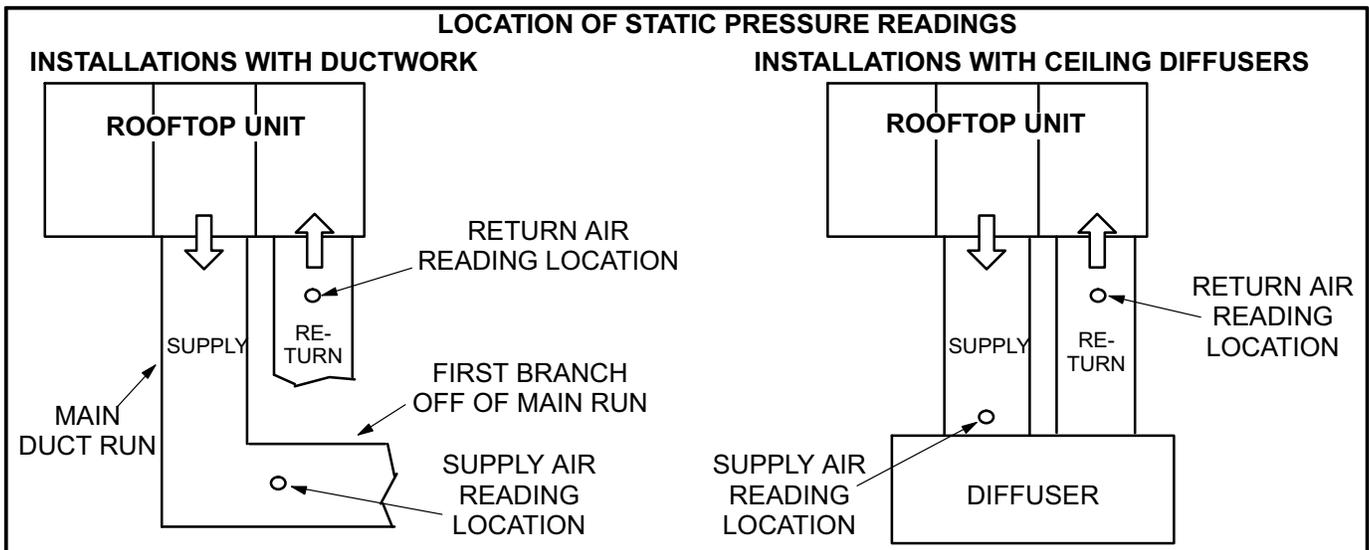

FIGURE 12
- 3- With all access panels in place, measure static pressure external to unit (from supply to return). Blower performance data is based on static pressure readings taken in locations shown in figure 12.